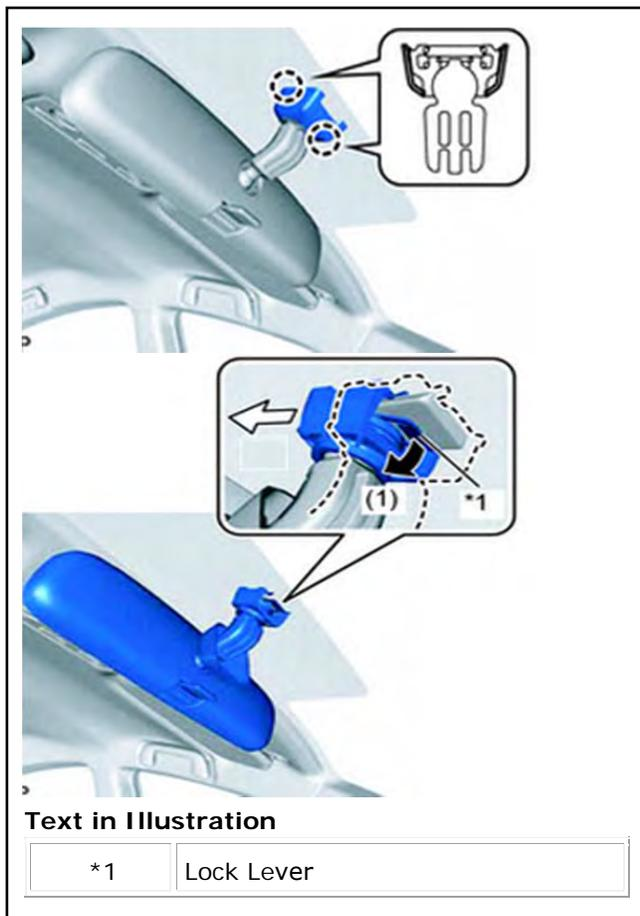

Figure 2
3. Disengage the 2 claws and separate the inner mirror base cover. See figure 2. Pull the lock lever in the direction indicated by the arrow in the illustration, and slide the inner rear view mirror assembly upward to remove it. See figure 2.